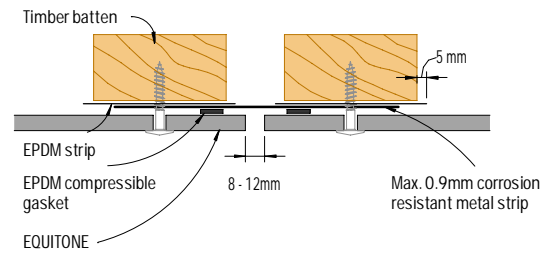

Figure 6: Vertical joint - Detail 2
- 2) In Figure 6 & 7, the metal strip should be fixed ONLY to one of the battens (either left or right) where allowance for horizontal and/or vertical movement of the cladding frame is required.